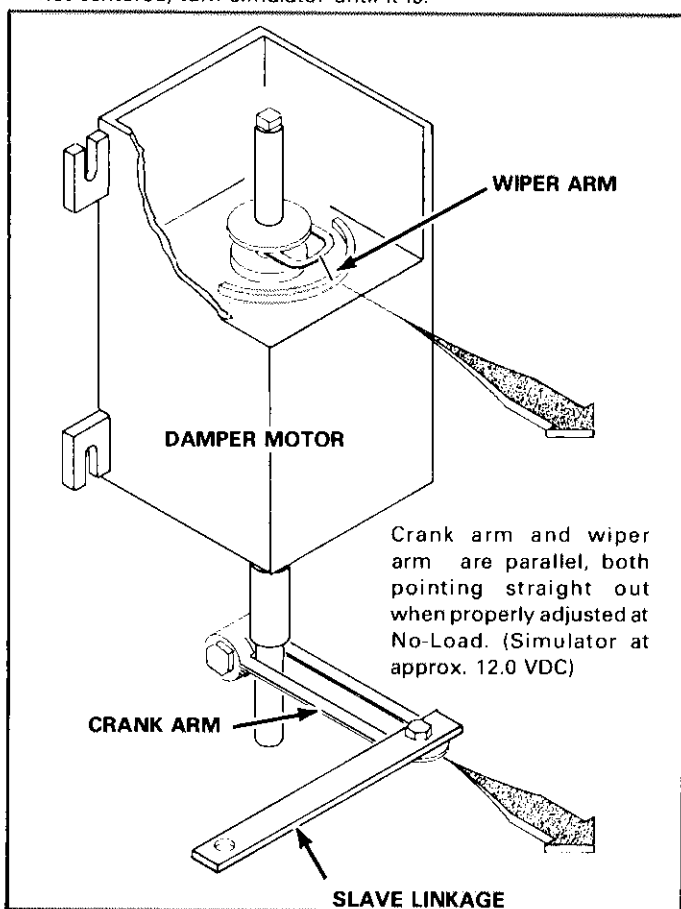

FIGURE 120
- 2 - Remove cover from damper actuator. The wiper blade of actuator should be in the position shown in Figure 120. If the wiper blade is not centered, turn simulator until it is.
NOTE - The crankarm must be parallel to the wiper blade. If the crankarm is not parallel, loosen coupling at actuator and reposition linkage so that it is. See Figure 120.